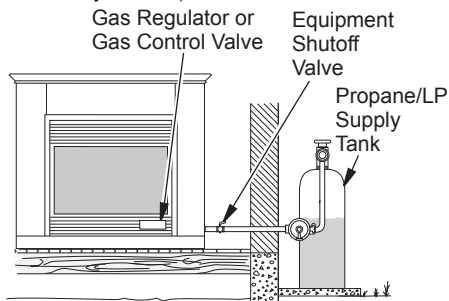

Figure 18 - Checking Gas Joints (Propane/LP Only)
pane/LP supply to equipment shutoff valve for propane/LP (see Figures 18 or 19). Apply noncorrosive leak detection fluid to all joints. Bubbles forming show a leak.
4. Check all joints from equipment shutoff valve to gas regulator (Thermostat-Controlled Models) or to gas control valve (Remote-Ready Models) (see Figures 18 or 19). Apply noncorrosive leak detection fluid to all joints. Bubbles forming show a leak.